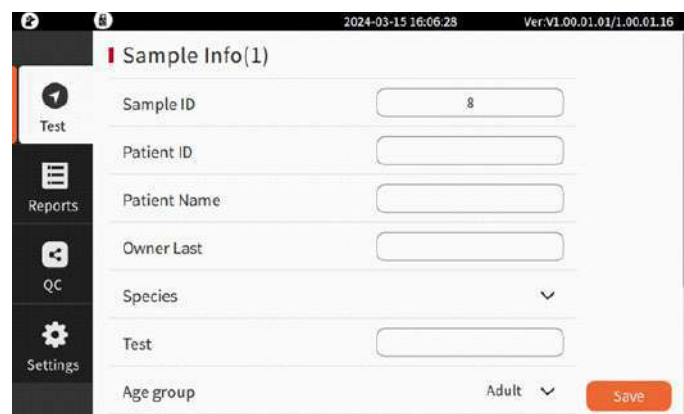

Figure 5-12
- 8) During the test, users can edit "Sample Info" as the follow steps: select "Sample Info", enter the interface shown in Figure 5-12 and then input the corresponding content. After completion, please click "Save".